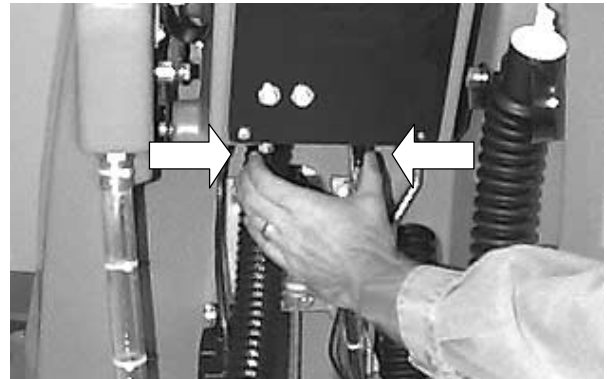

FIG. 11
2. Adjust control grips to a comfortable operating height, squeeze together the two levers below the console (Figure 11).